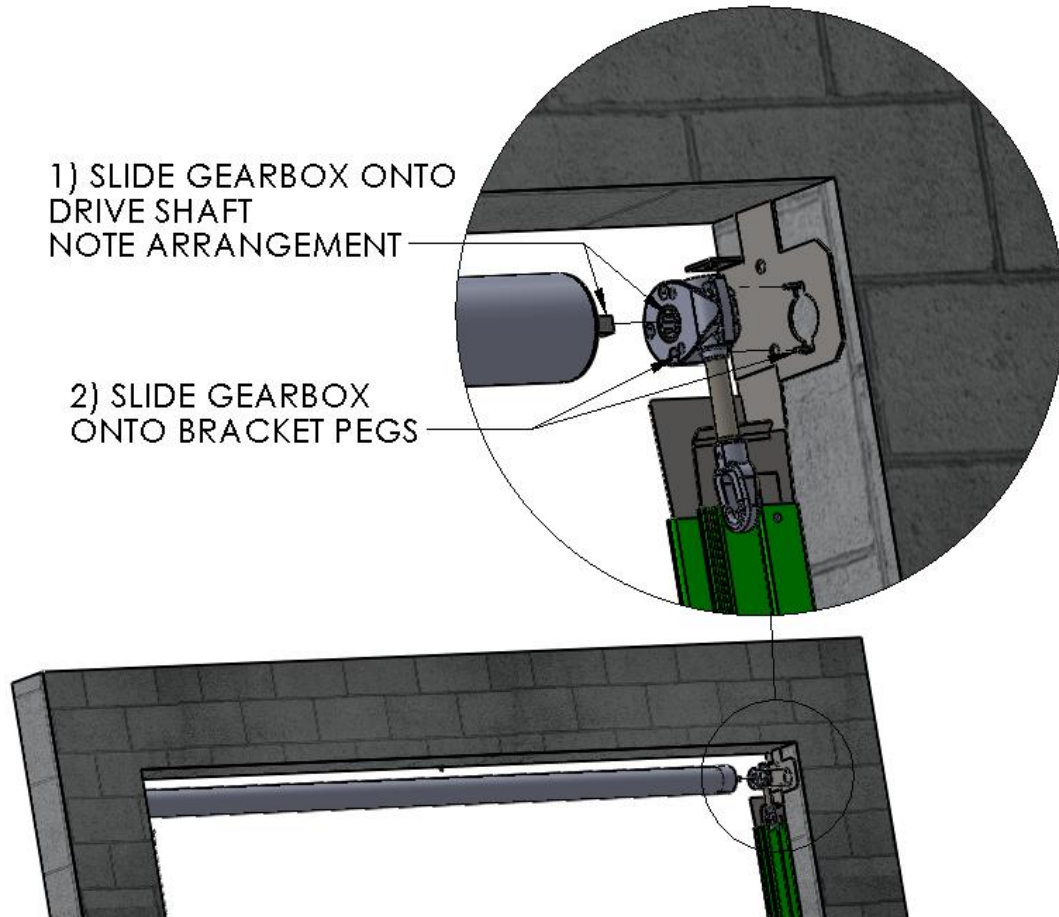

Figure 7 INSTALL R.H. SIDE OF HEADER ASSEMBLY
2. Slide the gearbox onto the square Drive Side Shaft (Figure 7 INSTALL R.H. SIDE OF HEADER ASSEMBLY)
3. At the right side, push the Header Assembly toward the Idler side to compress (spring loaded) Idler Shaft, and insert the Crank Gearbox bolt holes onto the two (2) pegs of the Header Mounting Bracket (Figure 7 INSTALL R.H. SIDE OF HEADER ASSEMBLY)